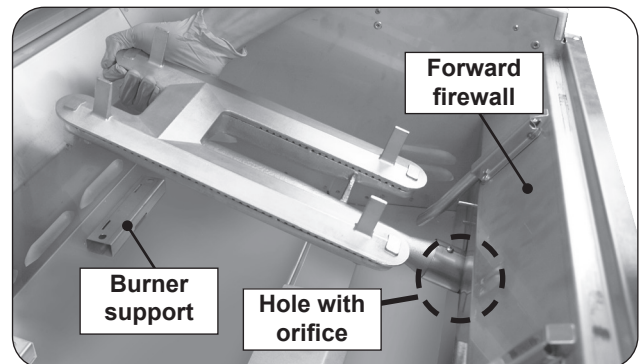

Fig. 41-3 Remove main burner
3. Carefully lift the burner from the burners support and out from the hole in the forward fire wall. See Fig. 41-3.